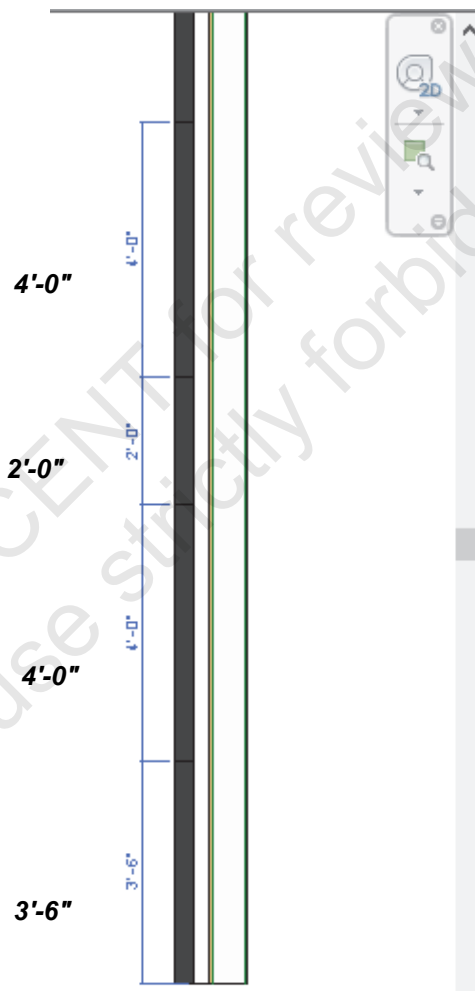

Figure 1-42
- In the Section view preview, move the cursor along the left edge of the exterior finish region (the leftmost region) to a point **3'-6"** above the base. Zoom in to ensure that you split the finish layer and not the central structural layer. Add the three additional splits to the same layers, as shown in Figure 1-42.